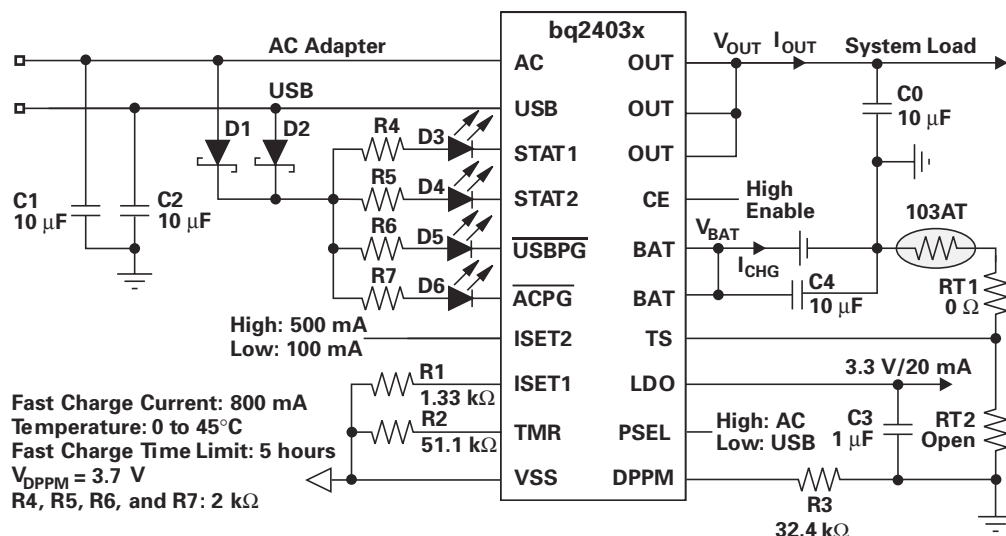
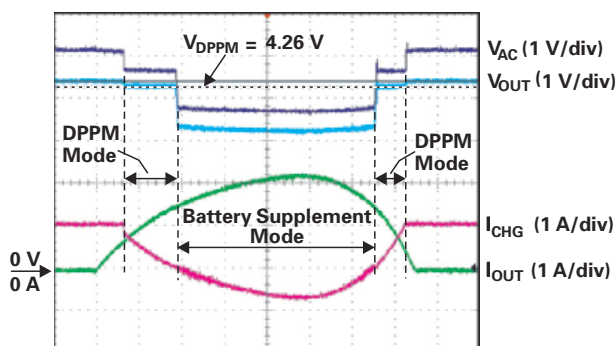

Figure 2. DPPM battery charger
Figure 3. DPPM experimental waveforms
**Figure 3** Areas of the United States with Class 4 and higher wind ratings are suitable for farming in conjunction with advanced turbine technology (courtesy United States National Renewable Energy Laboratory).
What other areas make good locations for wind farms? Wikipedia points out that “Seashores also tend to be windy areas and good sites for turbine installation, because a primary source of wind is convection from the differential heating and cooling of land and sea over the course of day and night. Winds at sea carry somewhat more energy than winds of the same speed in mountainous areas because the air at sea level is more dense.” Hilltops and seashores might be ideal locales from a wind-profile standpoint, but they’re anathema to folks who see wind turbines as eyesores. Looking again at **Figure 3**, you’ll note that plenty of the ideal wind-generation sites in the United States are removed from large population centers. The US Department of Energy estimates that, by harnessing just 6% of the US land area for wind energy, it would be possible to supply 1.5 times the country’s current electricity-consumption needs, thereby opening the door to further pollution- and greenhouse-gas-reducing steps, such as a wholesale population conversion to electric vehicles (**Reference 7**). Unfortunately, though, locating wind farms far away from population centers increases the cost and complexity of transferring generated power to those population centers.
Figure 2 shows a typical DPPM applications circuit. When the total current from the system and battery charger exceeds the current limit of the AC adapter or USB, the capacitors connected to the system bus start to discharge and system bus voltage begins to drop. When the system bus voltage drops to the predetermined threshold set by the DPPM pin, the charge current is reduced to prevent a system crash from overloading the AC adapter. If the system bus voltage cannot be maintained even when the charge current is reduced to 0 A, the battery will temporarily discharge and provide power to the system to avoid a system crash. This is called “battery supplement mode” and is shown in Figure 3 along with the DPPM experimental waveforms.